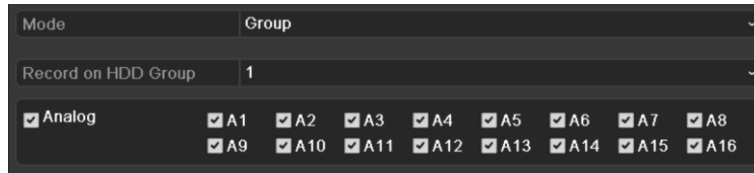

Figure 14-11 Storage Mode Interface
Step 2 Set the **Mode** to Group, as shown in Figure 14-11.